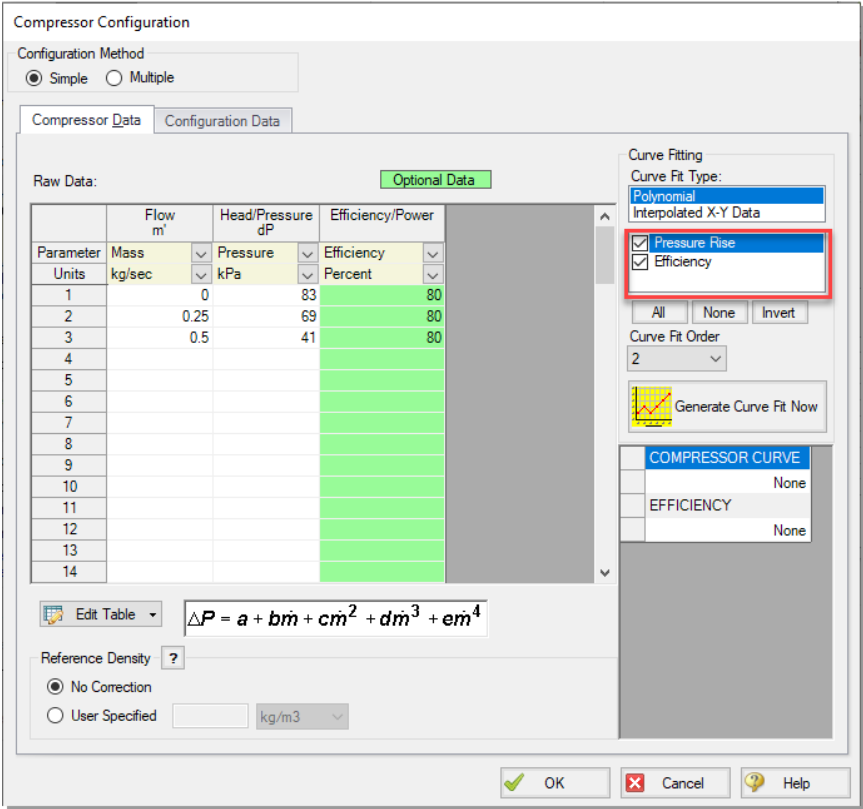
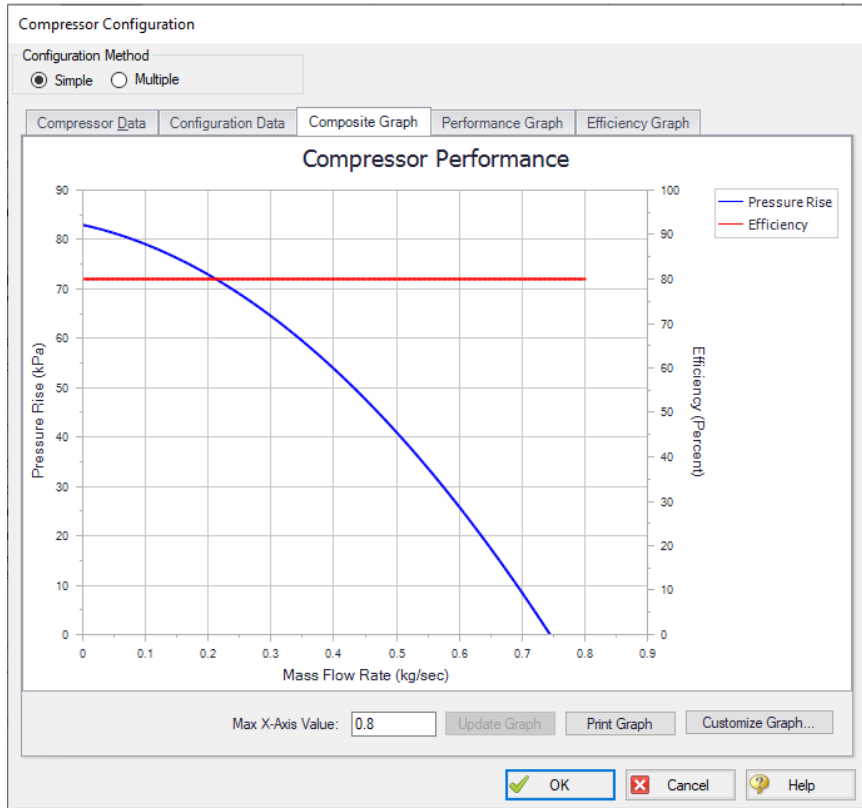

Figure 3.5 The Compressor Configuration window is where performance data is entered and fitted with a curve
Figure 3.6 Compressor Configuration window Composite Graph tab showing plots of curve fits generated from the Raw Data table
5. Select the Enter Curve Data button. Enter the Compressor Curve pressure and efficiency data from the following table into the Raw Data table in the Compressor Configuration window that is shown in Figure 3.5
6. After the curve data is entered in the Raw Data table, select the Pressure Rise and Efficiency check boxes in the curve fitting section of the Compressor Configuration window (see Figure 3.5). This will cause curve fits for both pressure and efficiency to be calculated. Then, click the Generate Curve Fit Now button to generate the Compressor Performance graph (see Figure 3.6). Select the OK button on the Compressor Configuration window to accept the Compressor curve fit and to close the window. Select the OK button to close the Compressor/Fan Properties window.